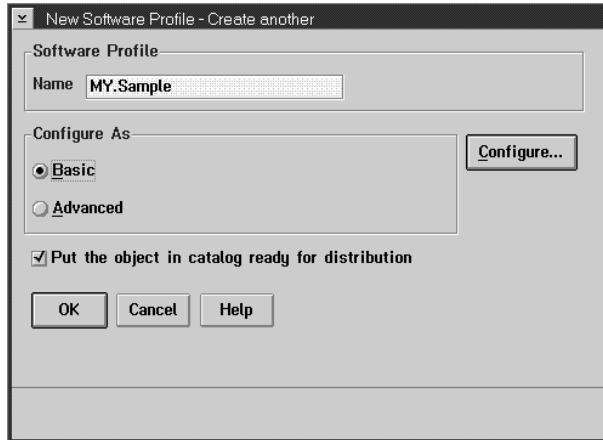

Figure 63. New software profile window
- 17** Close the notebook. The New Software Profile window is displayed again, as shown in Figure 63 on page 159.